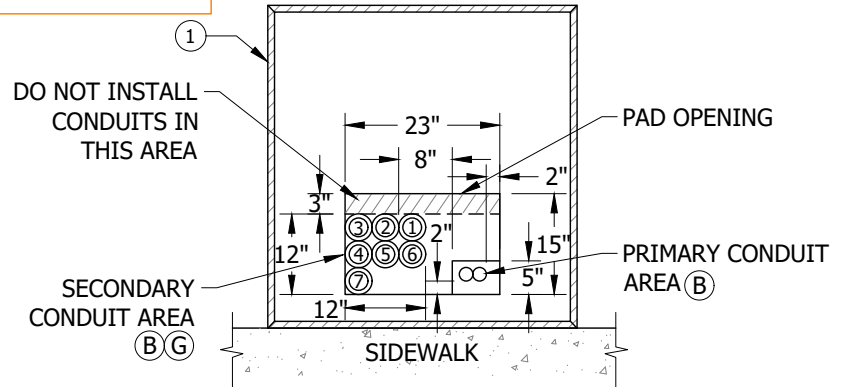

FIGURE 7
- (B) PLACE ALL PRIMARY AND SECONDARY CONDUITS WITHIN THE PAD OPENING AS SHOWN IN FIGURES 7 AND 8. DO NOT CUT INTO THE CURVED PORTION ON THE ELBOWS. RADIUS OF CURVATURE IS 36-INCH MINIMUM FOR 3-INCH AND 4-INCH CONDUITS. PLACE ALL CONDUIT WITH 3/0 OR LARGER CABLE TOWARDS THE REAR OF THE 12-INCH SECONDARY AREA. (C)
- (C) PRIMARY CONDUITS IN RIGHT HAND CORNER SHALL HAVE 2-INCH CLEARANCE FROM FRONT AND SIDE OF PAD.
- (D) THE CONDUIT CONFIGURATION REQUIREMENT BETWEEN TERMINATING POINTS LIMITS THE SECONDARY CONDUIT CONFIGURATION TO 2 WIDE X 4 DEEP OR 4 WIDE X 2 DEEP (NO ONE CONDUIT IS TO BE COMPLETELY SURROUNDED ON ALL FOUR SIDES BY OTHER CONDUITS), USING SPACERS AND 1 SACK CONCRETE SLURRY BACKFILL. CONDUITS MAY ALSO BE INSTALLED SIDE BY SIDE ON THE BOTTOM OF THE TRENCH WITHOUT SPACERS OR CONCRETE SLURRY (4 CONDUITS MAX.). IN THE TRANSITION AREA WHERE THE CONDUITS FROM THE BOTTOM OF THE TRENCH START TOWARD THE SURFACE (THE STRAIGHT PORTION BY THE 90 DEGREE BEND), SPACERS MAY BE REQUIRED TO ALLOW THE 90 DEGREE BENDS TO ENTER STRAIGHT INTO THE PAD OPENING. AT THE SURFACE POINT, THE CONDUITS MAY BE BUNDLED TOGETHER. USE SDG&E APPROVED BASE, SHADING AND BACKFILL.
G. WHEN THE NUMBER OF REQUIRED CONDUITS IS LESS THAN THE TOTAL CONDUITS ALLOWED IN THE TABLE, INSTALL CONDUITS IN NUMBERED SEQUENCE AS SHOWN IN FIGURE 7.